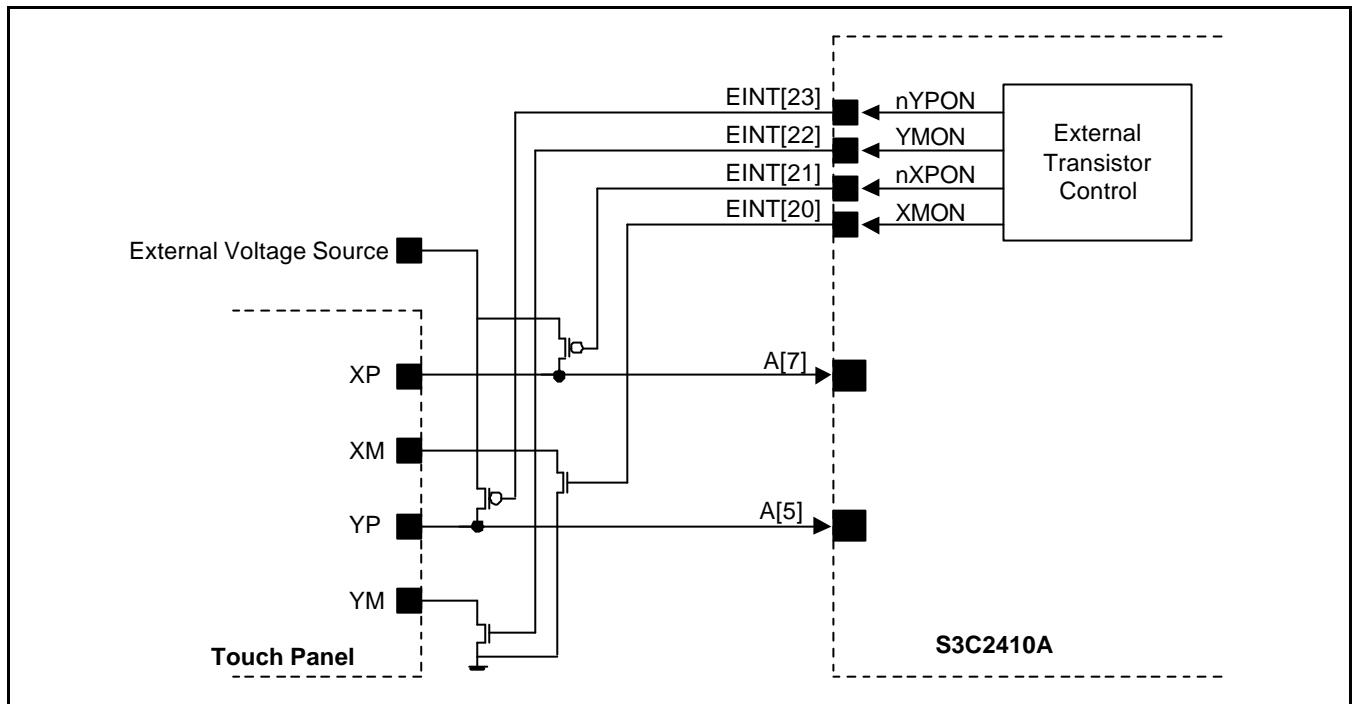

Figure 16-2. Example of ADC and Touch Screen Interface
The S3C2410A supports Touch Screen Interface, which consists of a touch screen panel, four external transistors, an external voltage source, AIN[7] and AIN[5] (see Figure 16-2).
1. Connect pads of the touch screen panel to the S3C2410A using external transistor (see Figure 16-2).